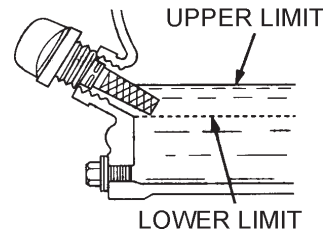

Figure 9. Engine Oil Dipstick (Removal)
4. If the oil level is low (Figure 9), fill to the edge of the oil filler hole with the recommended oil type (Table 6). Maximum oil capacity is 1.16 quarts (1.1 liters).